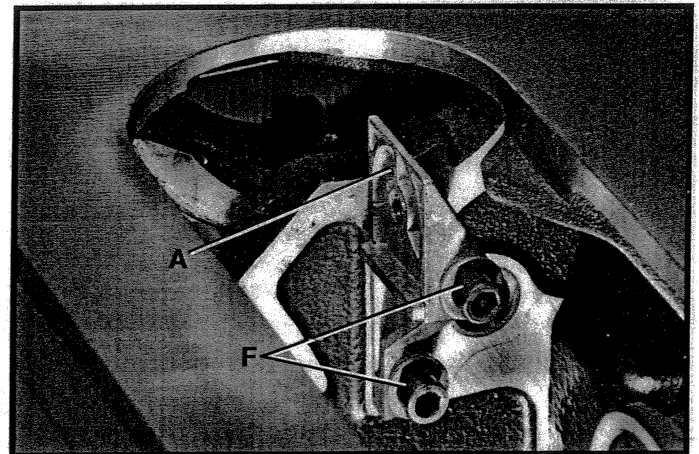

Fig. 36
4. If an adjustment is necessary, loosen two screws (E) Fig. 36, and adjust splitter bracket (A) until it is aligned with the inside blade flange (B). Tighten two screws (F). Loosely assemble screw and fastener plate (C) which were removed in **STEP 2**.